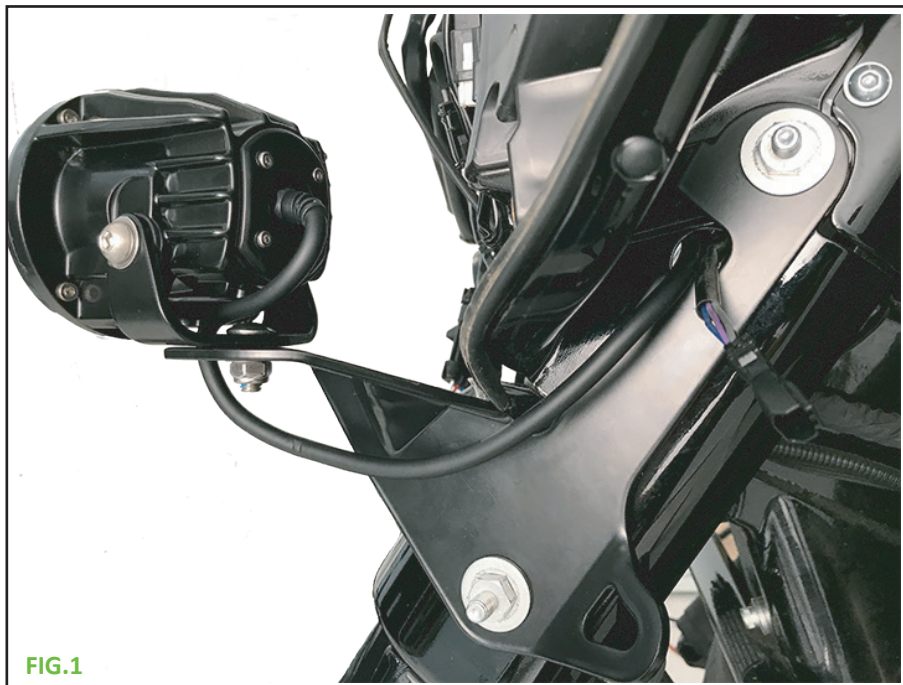

FIG.1
- 6) Assemble the lights and "U" shaped brackets. Place the carriage bolt into the bracket followed by the light. Route the wire under the light pointing forward in between the "U" shaped bracket and light. The rubber spacers and star washers fit inside the bracket. The flat washers and button head bolts go on the outside of the bracket. Secure the bolts but do not over tighten them. (Fig.1 - 2)
- 7) Assemble the light and bracket onto the large "L" shaped bracket using the supplied nuts and washers. Secure the nuts but do not over tighten them. (Fig.1 - 2)
- 8) Install the assembly onto the motorcycle using the double studs and leave them loose. (Fig.1) NOTE. Leaving them loose will help with fairing clearance during re-instllation later.
- 9) Route wires into the side of the fairing. (Fig.1)